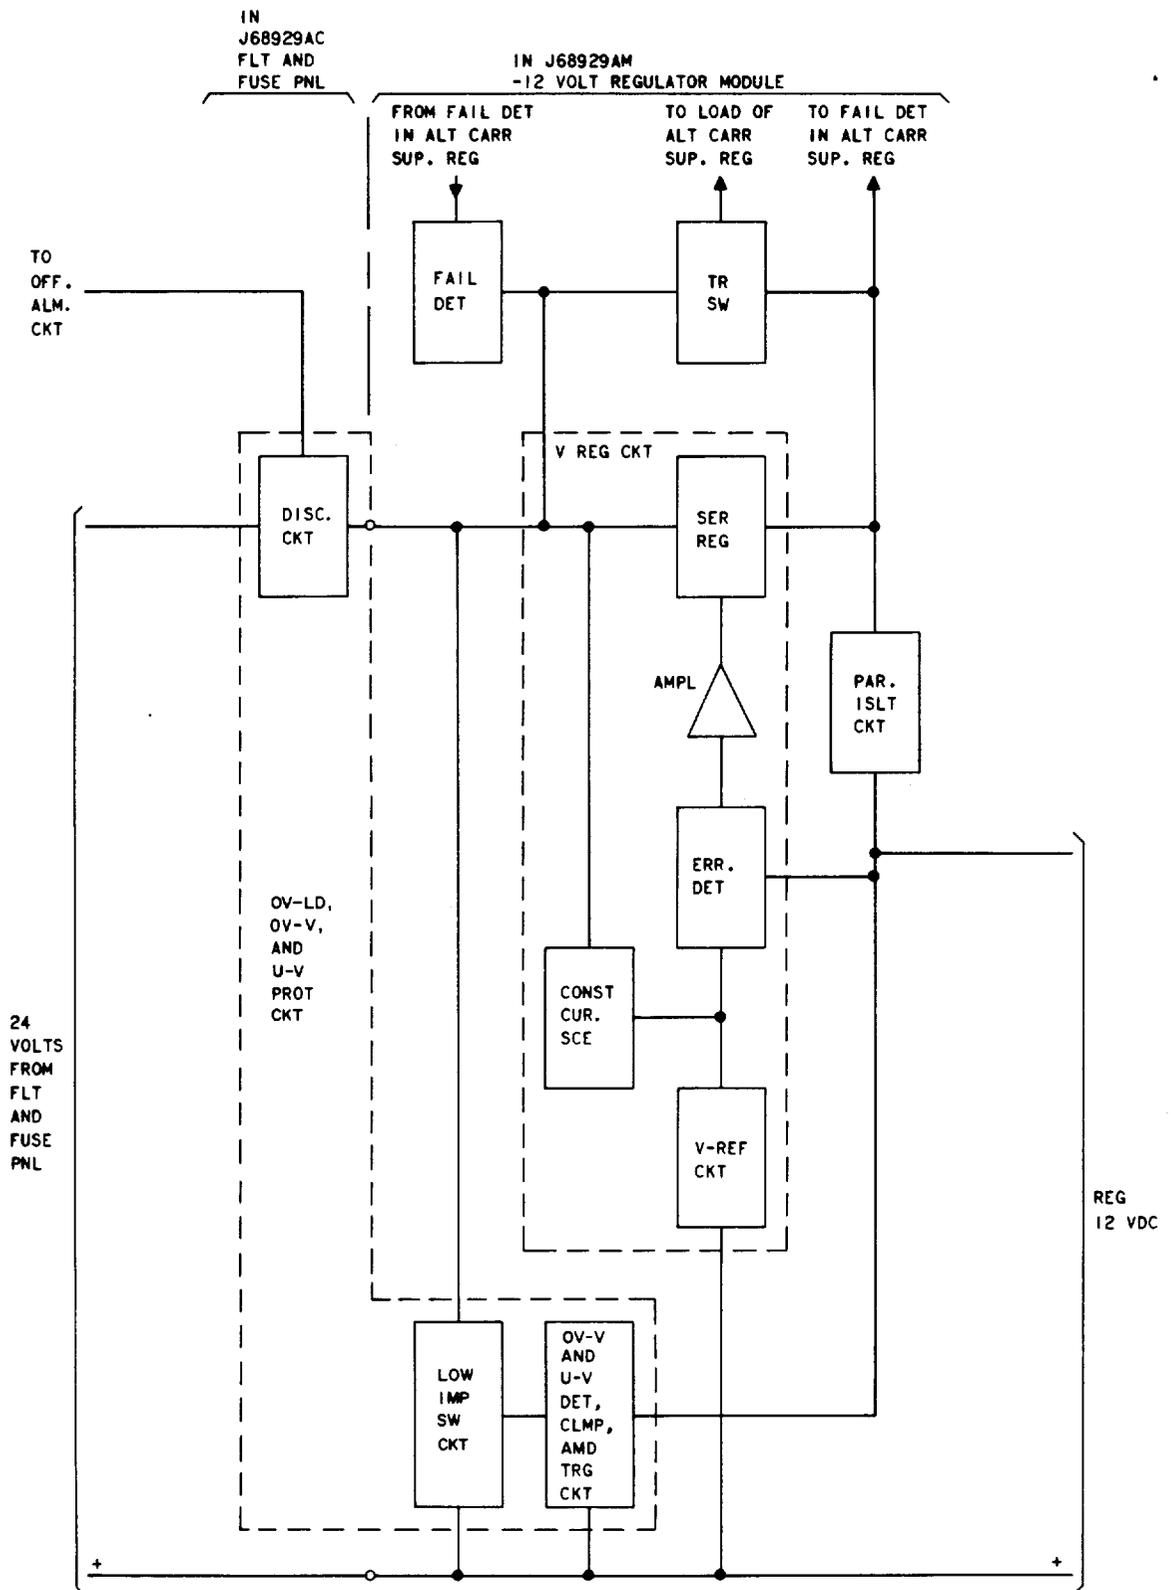

Fig. 6—J68929AM - 12 Volt Regulator—Block Diagram
3.21 The -12 volt regulator obtains its input voltage from the -24 volt filtered supply (filtered battery) derived in the associated filter and fuse panel (Sections 356-016-100 and -102); it provides an output of -12 volts which is regulated to within ± 2.5 percent. The circuitry for achieving output-voltage regulation; combined overload, overvoltage, and undervoltage protection (clamping, monitoring, and triggering); and protective transfer switching is located within the regulator module. The disconnect portion of the overload, overvoltage, and undervoltage protection circuit is located in the filter and fuse panel. These features are illustrated in Fig. 6.